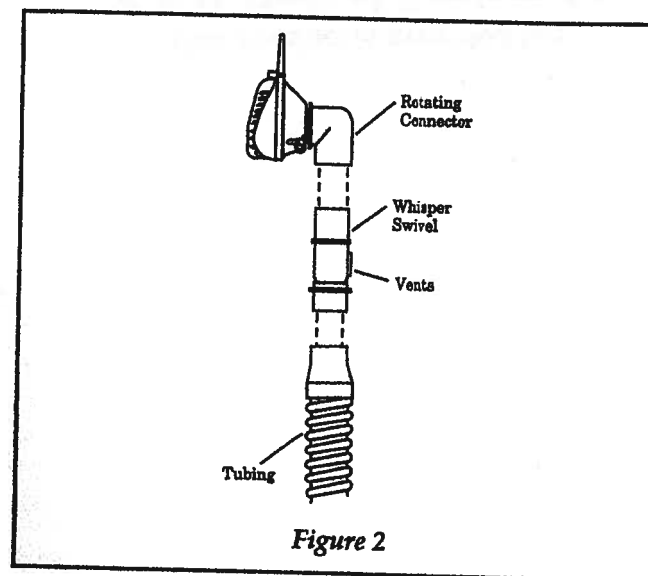

Figure 2
- Step 2 Assemble the breathing circuit as shown in Figure 2. Position the circuit so that the gas vents on the side of the swivel (or exhalation port) are positioned away from your face.